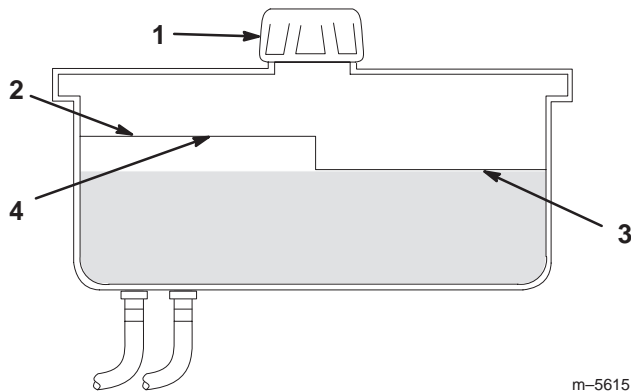

Figure 51
2. Clean area around filler neck of hydraulic tank (Fig. 51).
3. Remove cap from filler neck. Look inside to check if there is fluid in the reservoir. (Fig. 51).
Note: The fluid level should be to the top of the **hot** level of the baffle, when the fluid is warm (Fig. 51).